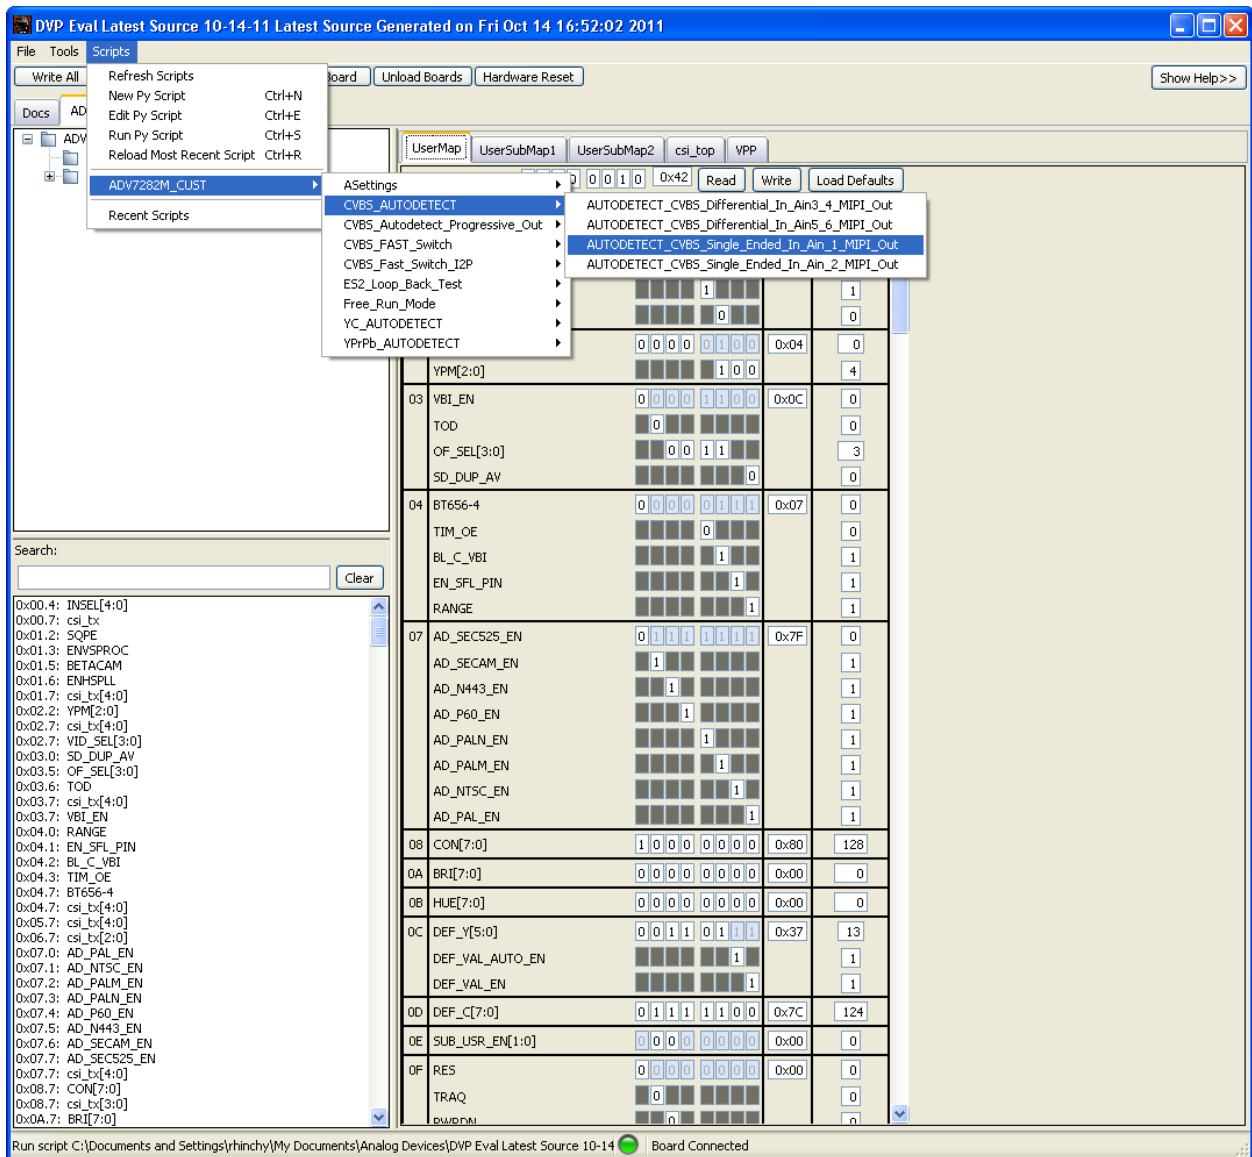

Figure 8. Running ADV7282-M Script on DVP Eval Program
7. Select Scripts-> ADV7282M_CUST to select the script you wish to run (refer to Figure 8).
| Figure 8. Running ADV7282-M Script on DVP Eval Program | 11 |